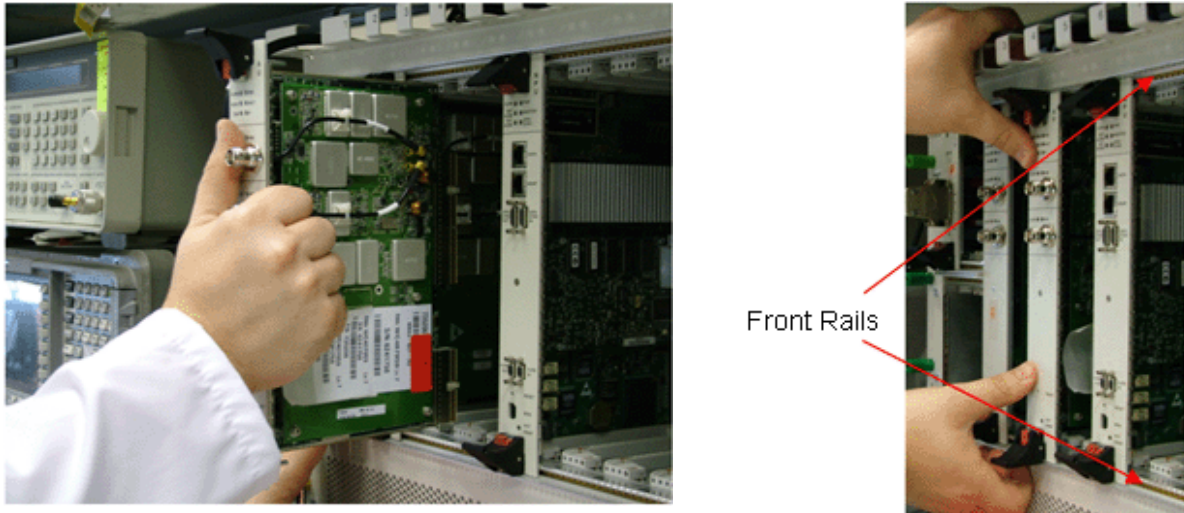

Figure 5-6: Positioning the Module in the BST Chassis
- Slide the module all the way in its designated position in the BST chassis (see Figure 5-6) and gently push the module using your fingers only, until the module's front panel reaches the front chassis rails.